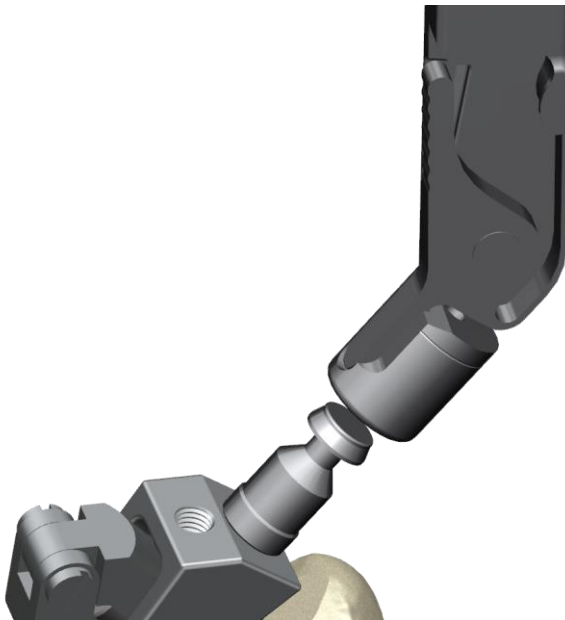

Figure 5: Stem extractor with screwed-in Handle Adapter Hook Coupling and Rasp Handle Standard Hook Coupling (detailed view)
- Taking into account the axis of the stem, screw the *Handle Adapter Hook Coupling* into one of the two drill-holes of the *Stem extractor* until the cone is firmly in position (Figure 5).
- Connect the *Rasp Handle Standard Hook Coupling* to the *Handle Adapter Hook Coupling* (Figure 5 and 6).